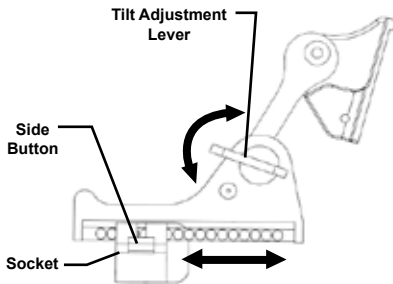

Figure 5-2. Tilt and Flip-Up Assembly Mechanisms
3. Place the PVS-7 in the socket of the helmet mount. (See Figure 5-2.) Set your eye relief by depressing the side buttons and carefully move the goggles fore or aft until the eyecups comfortably seal around the eyes. Readjust the helmet straps as required for vertical adjustment.
4. Turn power switch to ON. Adjust the tilt by using the tilt adjustment lock lever (Figure 5-2) until you obtain a comfortable viewing angle.
8. Adjust the eye relief distance by pressing the side button (See Figure 5-2) and sliding the PVS-7 fore or aft to obtain a full field of view of the image. Readjust the diopter rings for the best image.